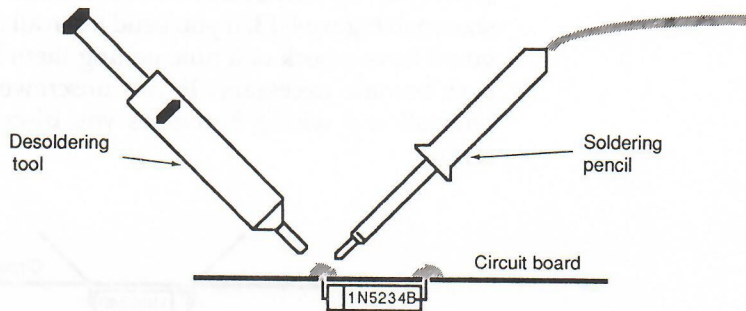

Figure 4-11 The tools should form a V-shape over the board.
6. Hold one tool in each hand and approach the solder joint at a 45-degree angle. As shown in Figure 4-11, the tools should form a V-shape over the board. Touch the tip of the soldering pencil to the joint, then, as soon as the solder starts to melt, pry up the diode lead (assuming it's bent over) by using the soldering pencil tip as a lever. As soon as the bent-over lead is up, withdraw the iron, rotate the desoldering tool so that it's perpendicular to the board, smother the lead, and push the release button. Pop! All of the solder should go into the barrel. The joint should be nice and clean. If it isn't, you probably delayed too long. Discharge whatever solder you did remove (into a can), then reheat the joint, apply a little fresh solder, and try again. Remember, even though the barrel is quite large, it's only got a one-shot storage capacity. The entire function of that barrel is to create a vacuum. Each time you prime the tool, the waste solder spits out. If you don't prime it over a can, it'll just spit out all over the place, making a mess of the bench and creating dangerous short circuits (unwanted connections) on the analog board. This is so important, that I'll say it again. Use a can!